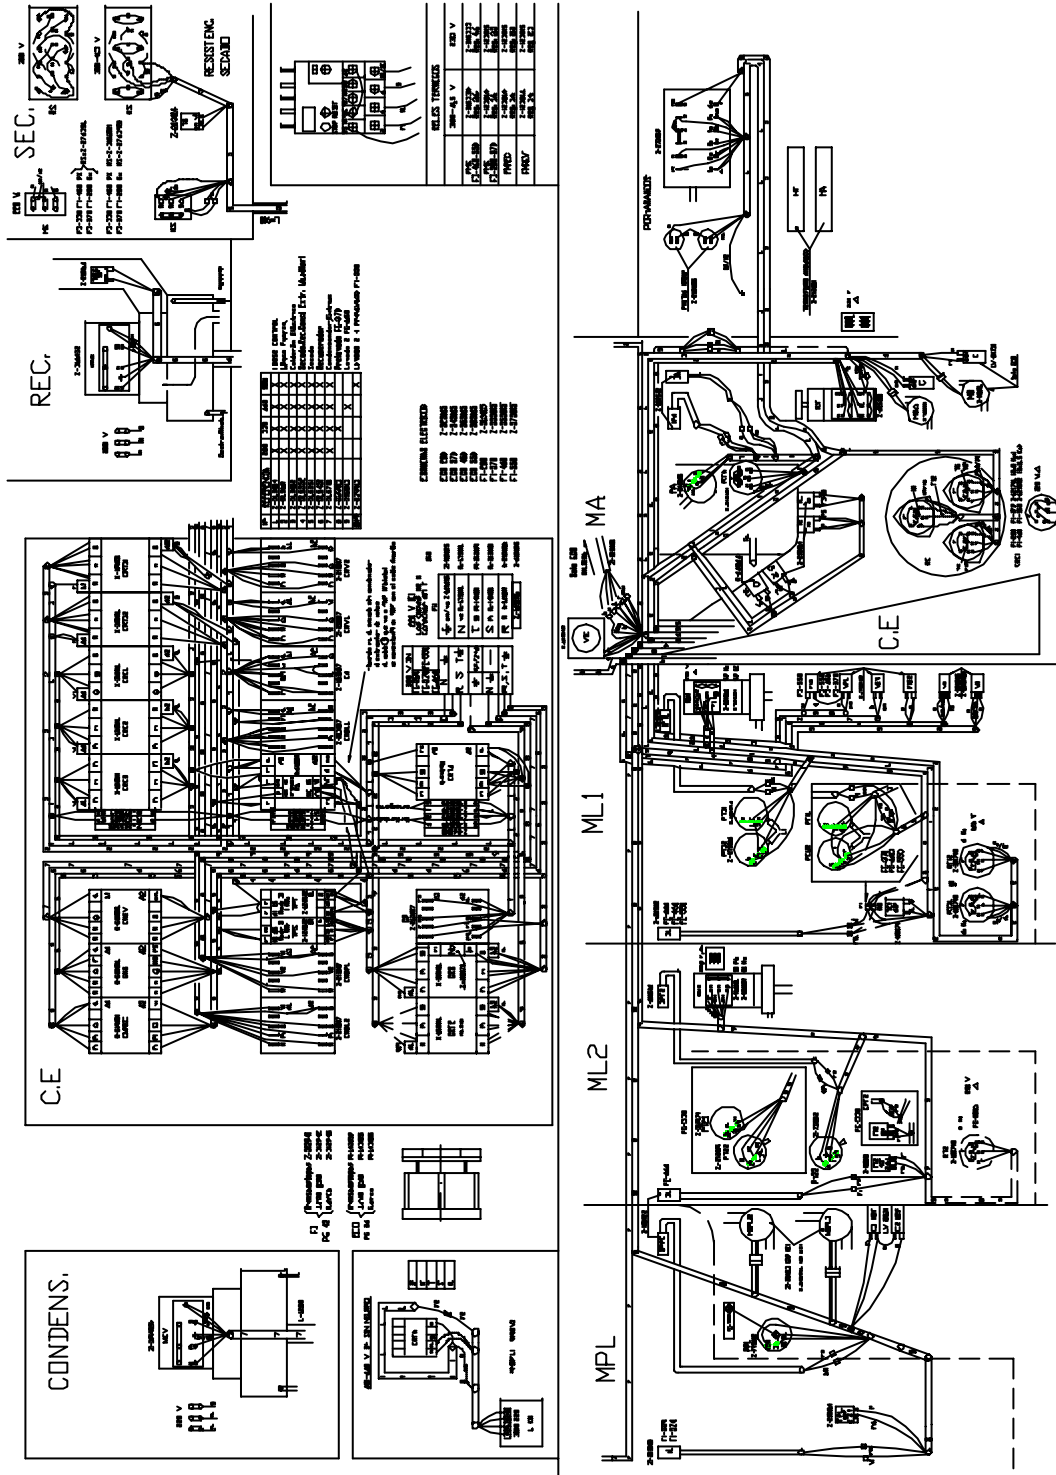

Figure 7
The pressure pot begins to heat during start-up and is controlled by means of a 70°C thermostat in position (V) of the switch so that there is no steam when the dishwasher is not in operation. Once the selector is moved to position I or II (conveyor train in movement at speed I or II) of the switch, the temperature is controlled by the 90°C thermostat (see electrical diagram Figure 5 and Figure 7).